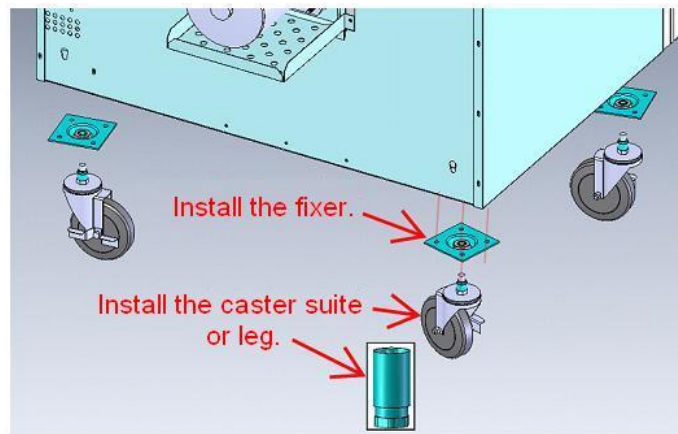

Fig.3
2. During stacking, replace the long leg with 6" leg or caster as indicated in Fig.3.